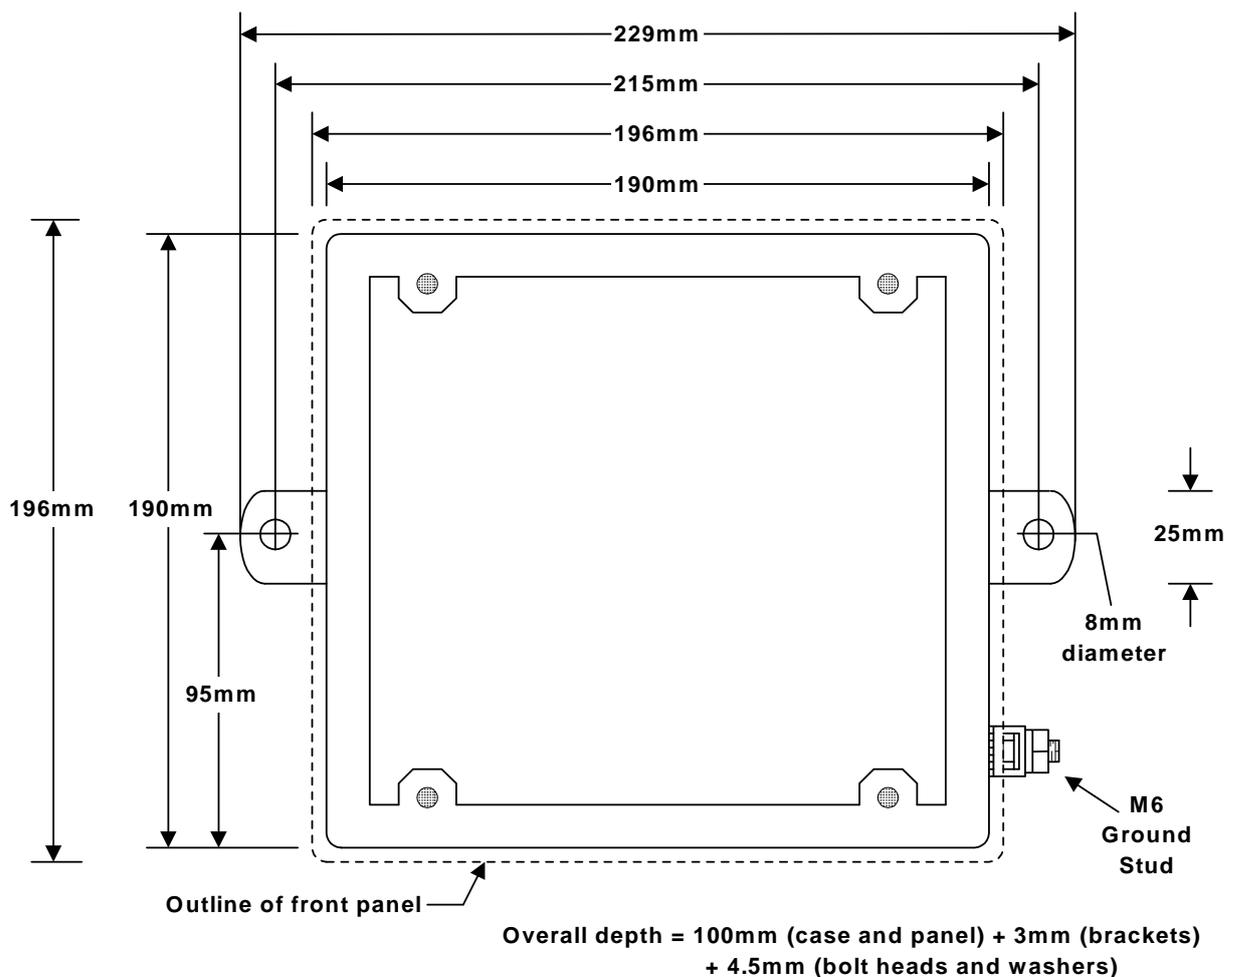

Figure 3.2: Dimensions of the Hydratect 2462 case
| FIGURE 3.2: | DIMENSIONS OF THE HYDRATECT 2462 CASE | 3-5 |
- 2 Prepare the **fixing points** (for screws, bolts, etc), according to the dimensions of the fixing lugs shown in Figure 3.2